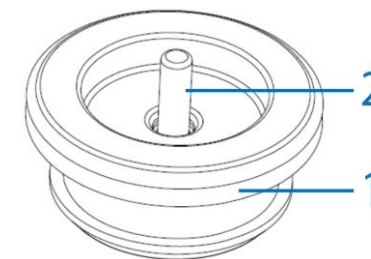

Figure 7
1. Remove the plug from the grommet (1) (Figure 7) by pulling the stub (2) (Figure 7) to create a hole in the grommet.